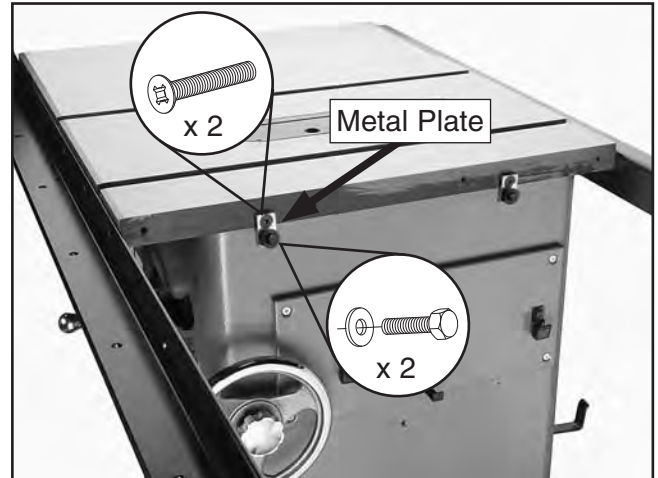

Figure 15. Metal plates installed.
3. Secure the metal plates to the table with M8-1.25 x 25 flat head screws on the right side of the table saw cabinet, as shown in **Figure 15**, then thread two M8-1.25 x 12 hex bolts with 8mm flat washers into the metal plates. Do not fully tighten the bolts.